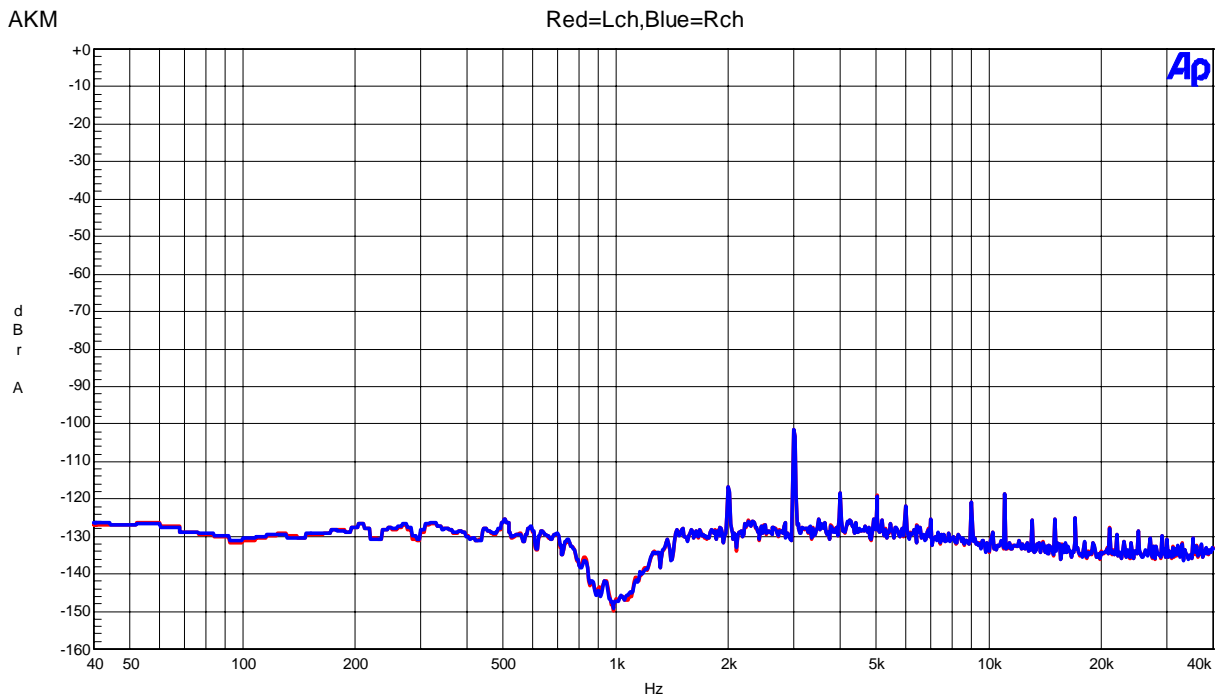

Figure 34. FFT(Input Frequency=1kHz, Input Level=0dBFS,Notch-on)
- Figure 34. FFT (noise floor)